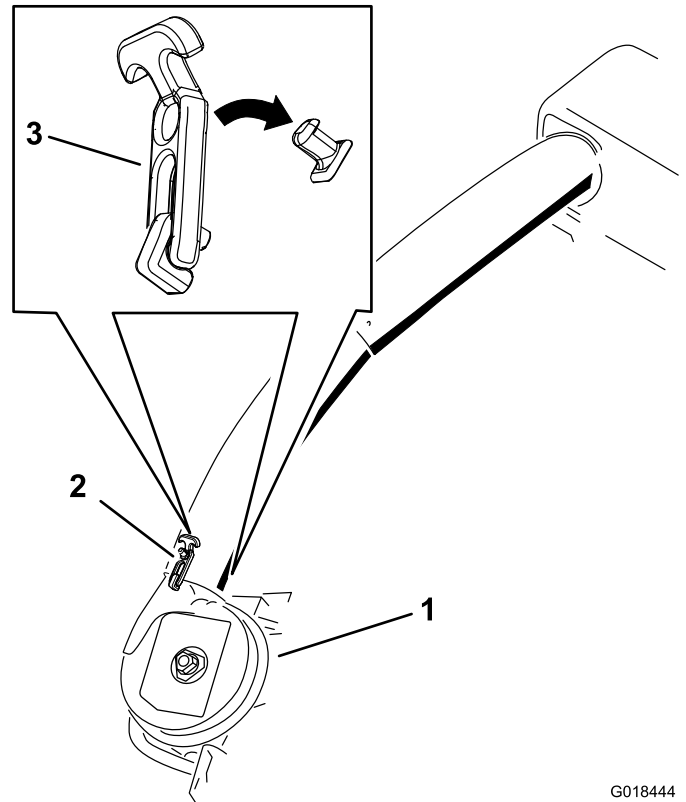

Figure 20
6. Use both latches to attach the lower tube to the blower assembly (Figure 20).
20. Use both latches to attach the lower tube to the blower assembly (Figure 20).